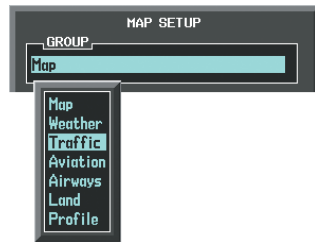

Figure 6-178 Navigation Map Page Setup Menu
- 4) Turn the small **FMS** Knob to select the Traffic Group and press the **ENT** Key (Figure 6-178).